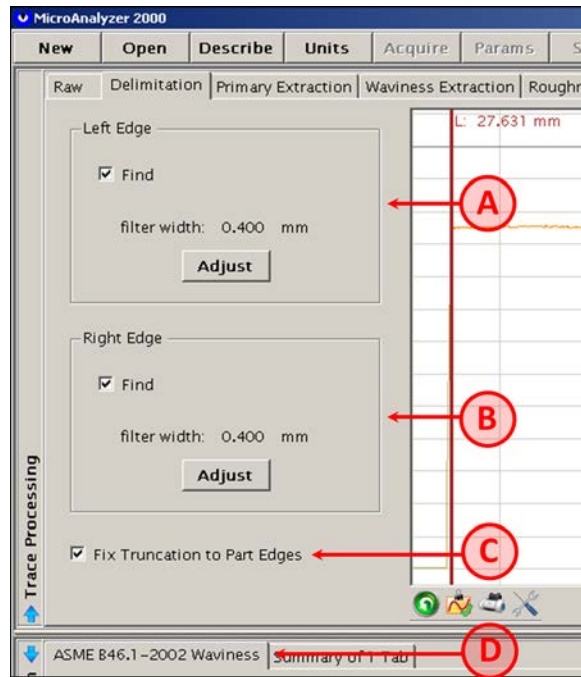

Figure 2 - Delimitation Tab Settings
- 4.3. Confirm the following settings on the *Delimitation* tab (Figure 2):
- 7.2. Confirm the following settings on the *Delimitation* tab (Figure 2):